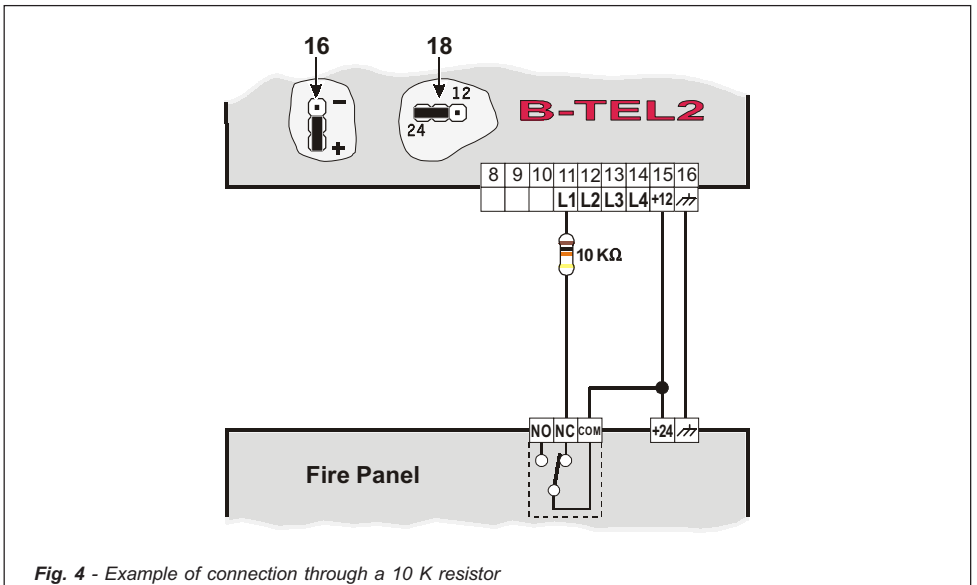

Fig. 4 - Example of connection through a 10 K resistor
**CAUTION** - When using positive command signals with a voltage higher than 20 V, it is necessary to connect to a 10Kohm resistor (not provided): see Fig. 4.